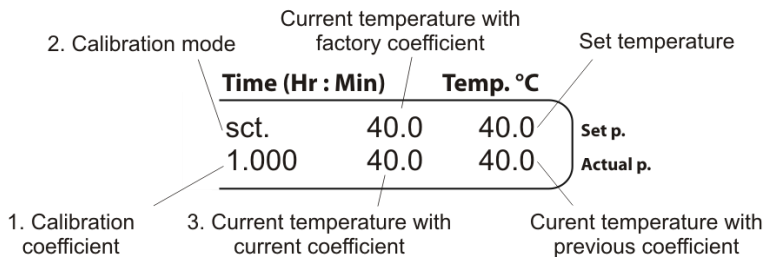

Figure 3. Control panel in calibration mode
- 7.2. To change the calibration coefficient, hold the **RUN/STOP TIME** key (fig. 1/7, **PCH-1, PCH-2 & PCH-3**) or **Start Stop** (fig. 2/7, **CH 3-150**) key pressed for more than 8 s to activate calibration mode. The calibration mode appears on the display (fig. 3).
- 7.3. **Restoring factory settings.** Set 1.000 value using the **▲** and **▼ Temp** or **T (°C)** keys as shown on fig. 3/1 to restore the factory settings. Press the **RUN/STOP TIME** or **Start Stop** key once to save the changes and exit the calibration mode.
- 7.4.4. Let us assume that the readings of independent sensor is 39°C, but the display's actual temperature is 40°C (fig. 3/4). Then it is necessary to add 1°C correction.
- 7.4.5. Hold the **RUN/STOP TIME** or **Start Stop** key pressed for more than 8 s to activate calibration mode. The following parameters will be shown on the display (fig. 3).